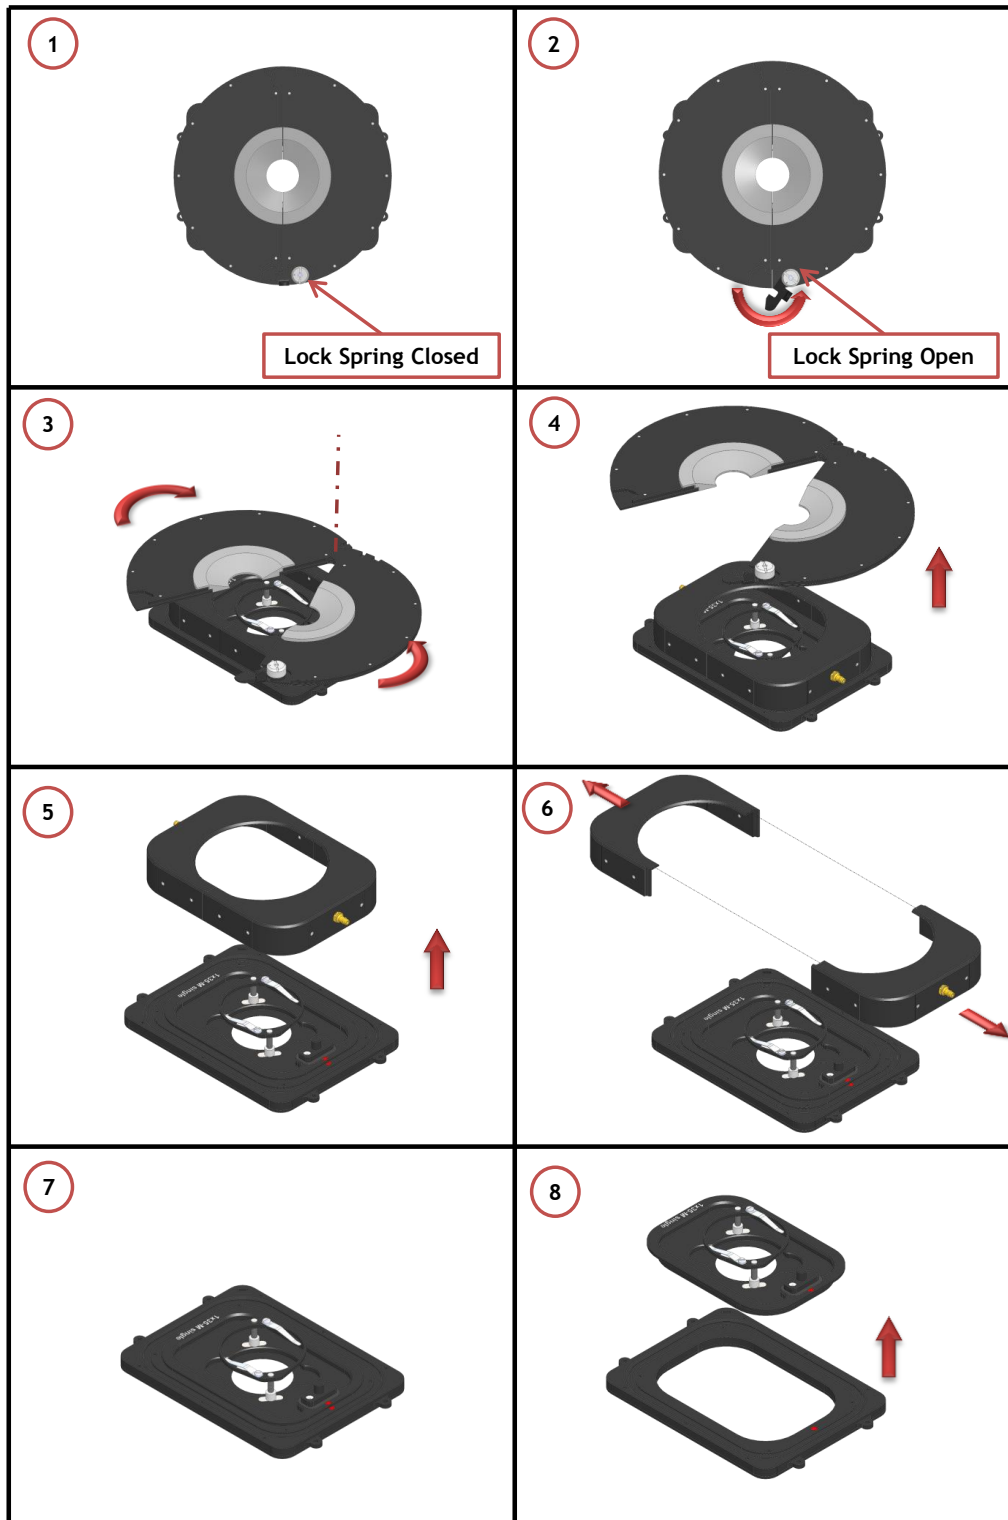

Figure 5. Introduction of the Specimen Holder inside the Chamber Base.
If you want to change the sample holder follow the steps shown in the images of Figure 5 and listed below:
1. Open the lock spring, as shown in Figure 5 Image 2
2. Open the chamber lid as shown in Figure 5 Image 3
3. Remove the chamber lid by lifting it from the workspace, as shown in Figure 5 Image 4
4. Remove the chamber by lifting it from workspace, as shown in Figure 5 Images 5 and 6
5. Lift and replace the sample holder, as shown in Figure 5 Image 8